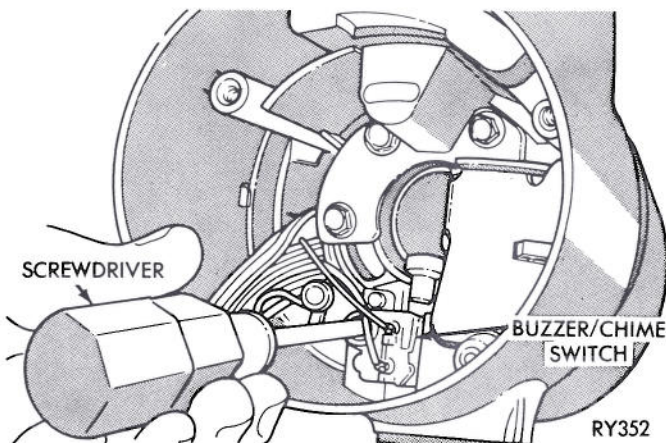

Fig. 10—Ignition Key Buzzer/Chime Switch
(1) Remove ignition key. Remove screw and lift out buzzer/chime switch (Fig. 10).
(2) Remove two screws attaching the ignition switch.
(3) Remove the ignition switch by rotating the switch 90 degrees on the rod and sliding off the rod.